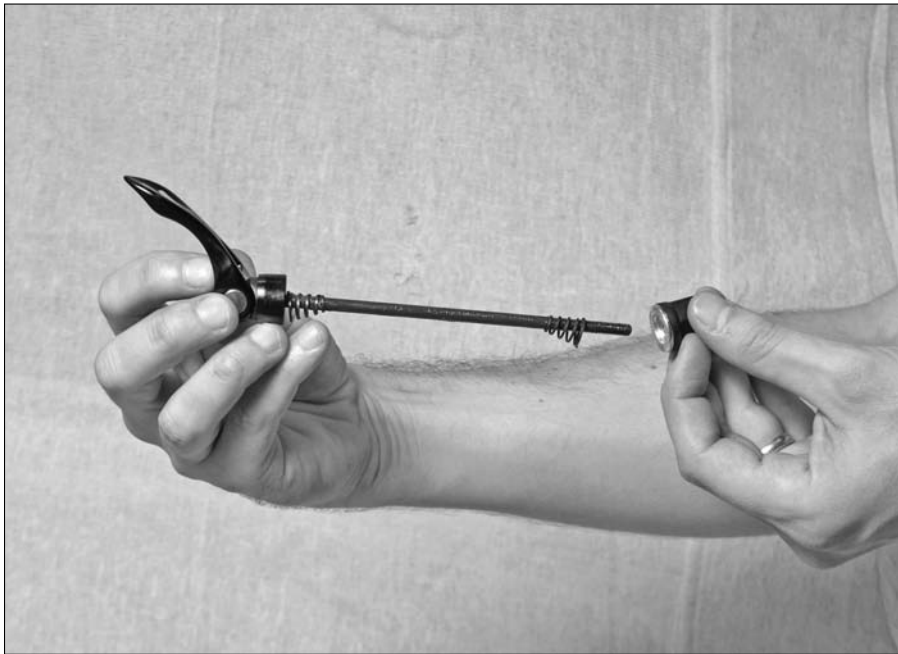

Figure 7-3:
- ✔ **In place of bolts**, many bikes these days are manufactured with a quick release which are loosened by opening the lever on the side of the wheel hub. If your wheel has a quick release, open the lever. When you release the lever the axle may loosen enough to remove the front wheel. If it doesn't, hold the nut opposite the lever with one hand and rotate the lever a few times to loosen it (as shown in Figure 7-2). The quick-release skewer is shown in Figure 7-3.